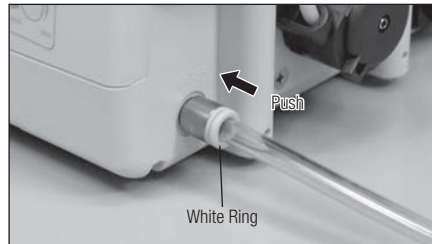

Fig. 4
- Pushing the White Ring, (the Quick Connector Release Ring) on the Water Connector, gently remove the Tube. (Fig. 4)